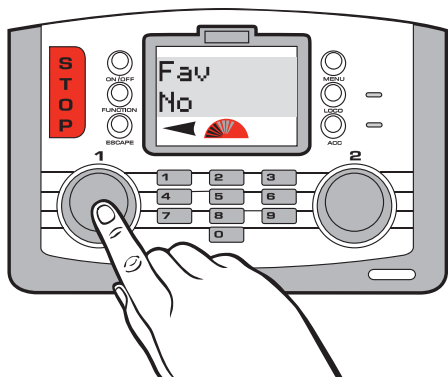

Fig 1
8. Press **Control 1**. Screen shows "Fav No". See Fig 1.